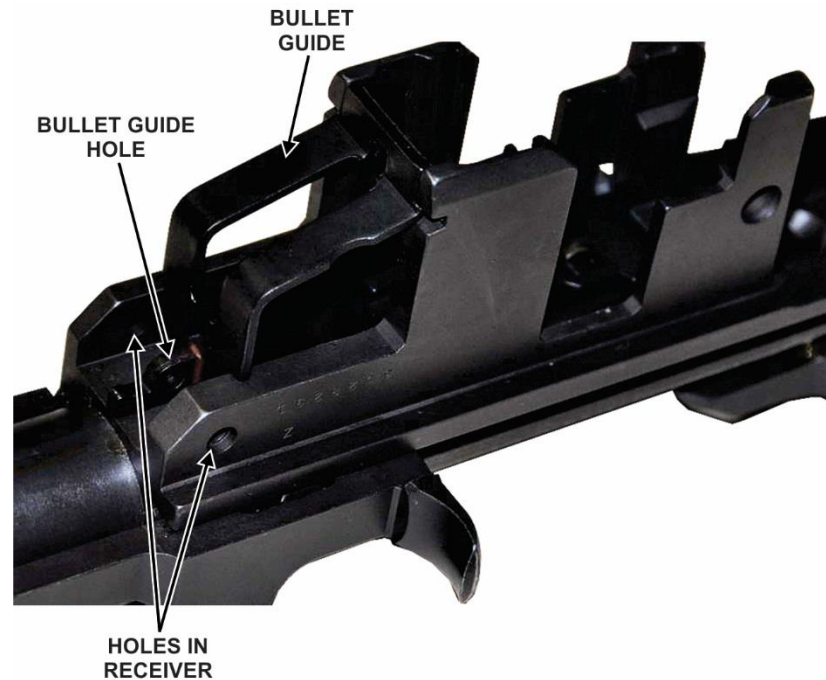

Figure 42. Bullet guide insertion
- 11) Place the bullet guide so that its shoulders fit into their corresponding notches in the receiver and the bullet guide hole is aligned with the holes in the receiver (fig 42).